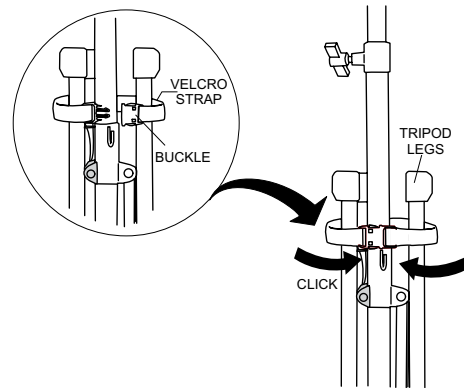

Figure 24. Velcro Strap (Closed)
9. Once pentapod legs are in the stowed position, place velcro strap (Figure 24) around all 5 legs. Secure legs by inserting the male and female connector ends of the strap into each other.